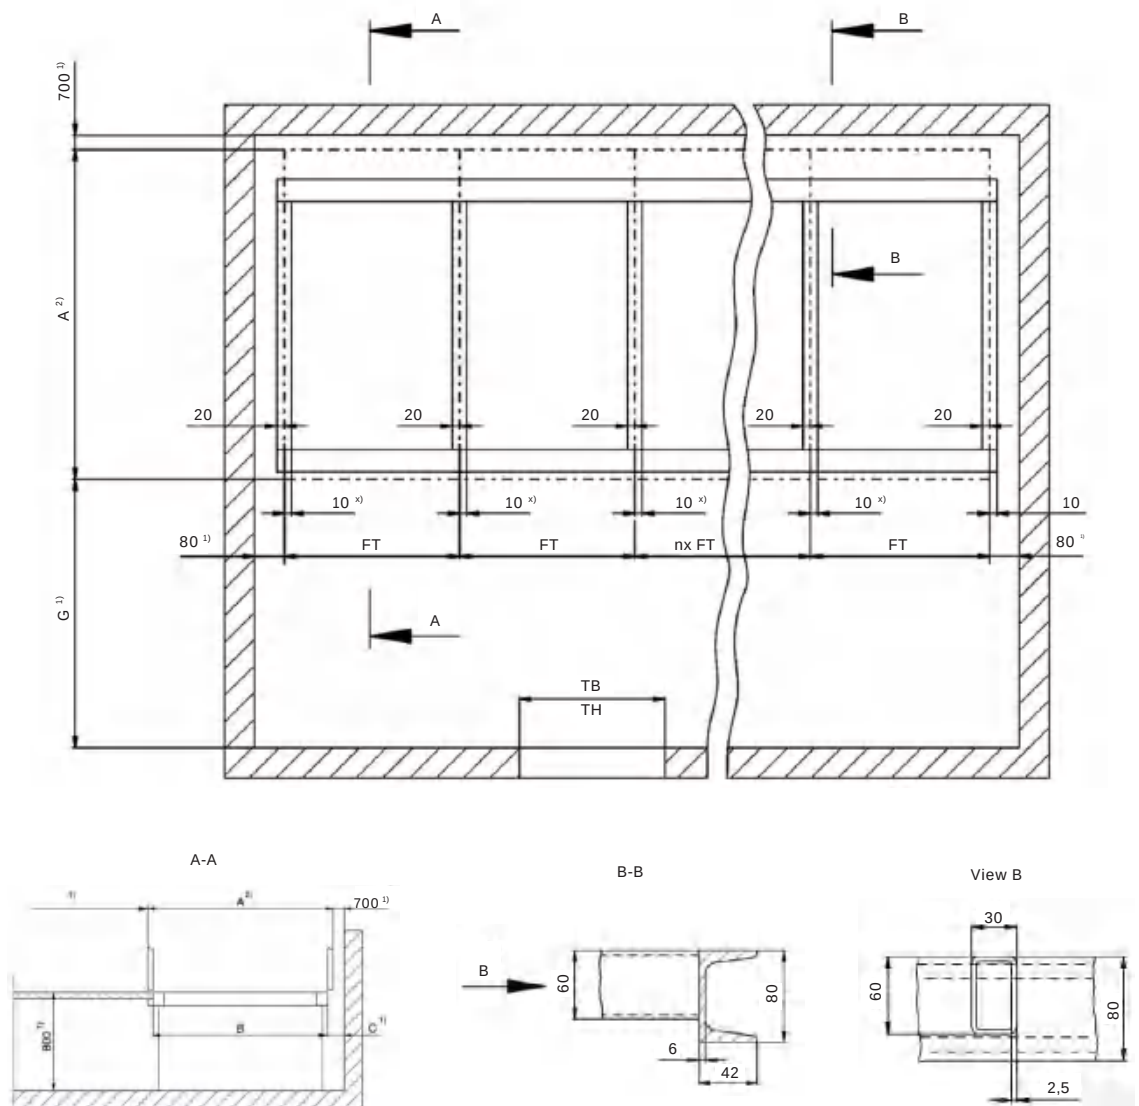

Figure 26 Guideline structural data for a raised false floor
- Carefully level the base irons both longitudinally and transversally over the entire length and correct the height by using strips with a suitable thickness and a levelling instrument. Usually the top edge of floor frame should be 2 mm above the finished floor surface (Fig. 26, 29)